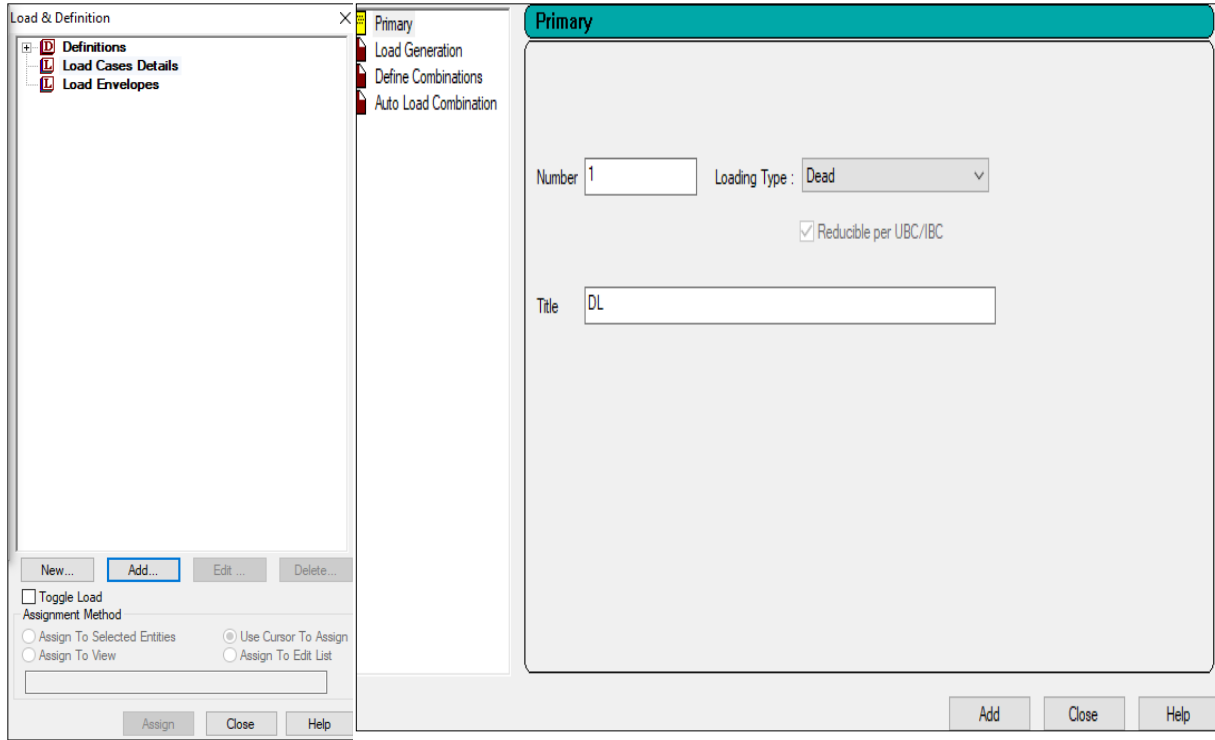

Fig: 3.7
2.3 **Load & Definitions:** Load Cases Details → Add → Loading Type = Dead → Title = Dead Load or DL → Add → Again Loading Type = Live → Title = Live Load or LL → Add → Close. (Fig: 3.7)